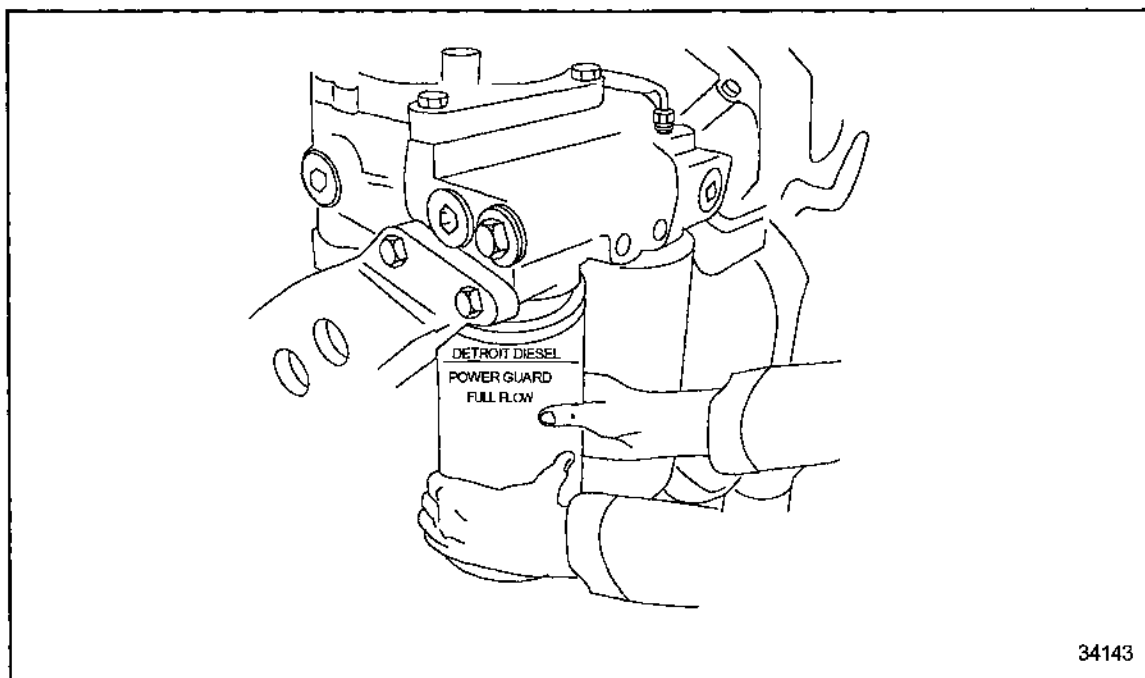

Figure 19 Oil Filter Replacement
4. Install new engine oil filter and hand-tighten. See Figure 19.